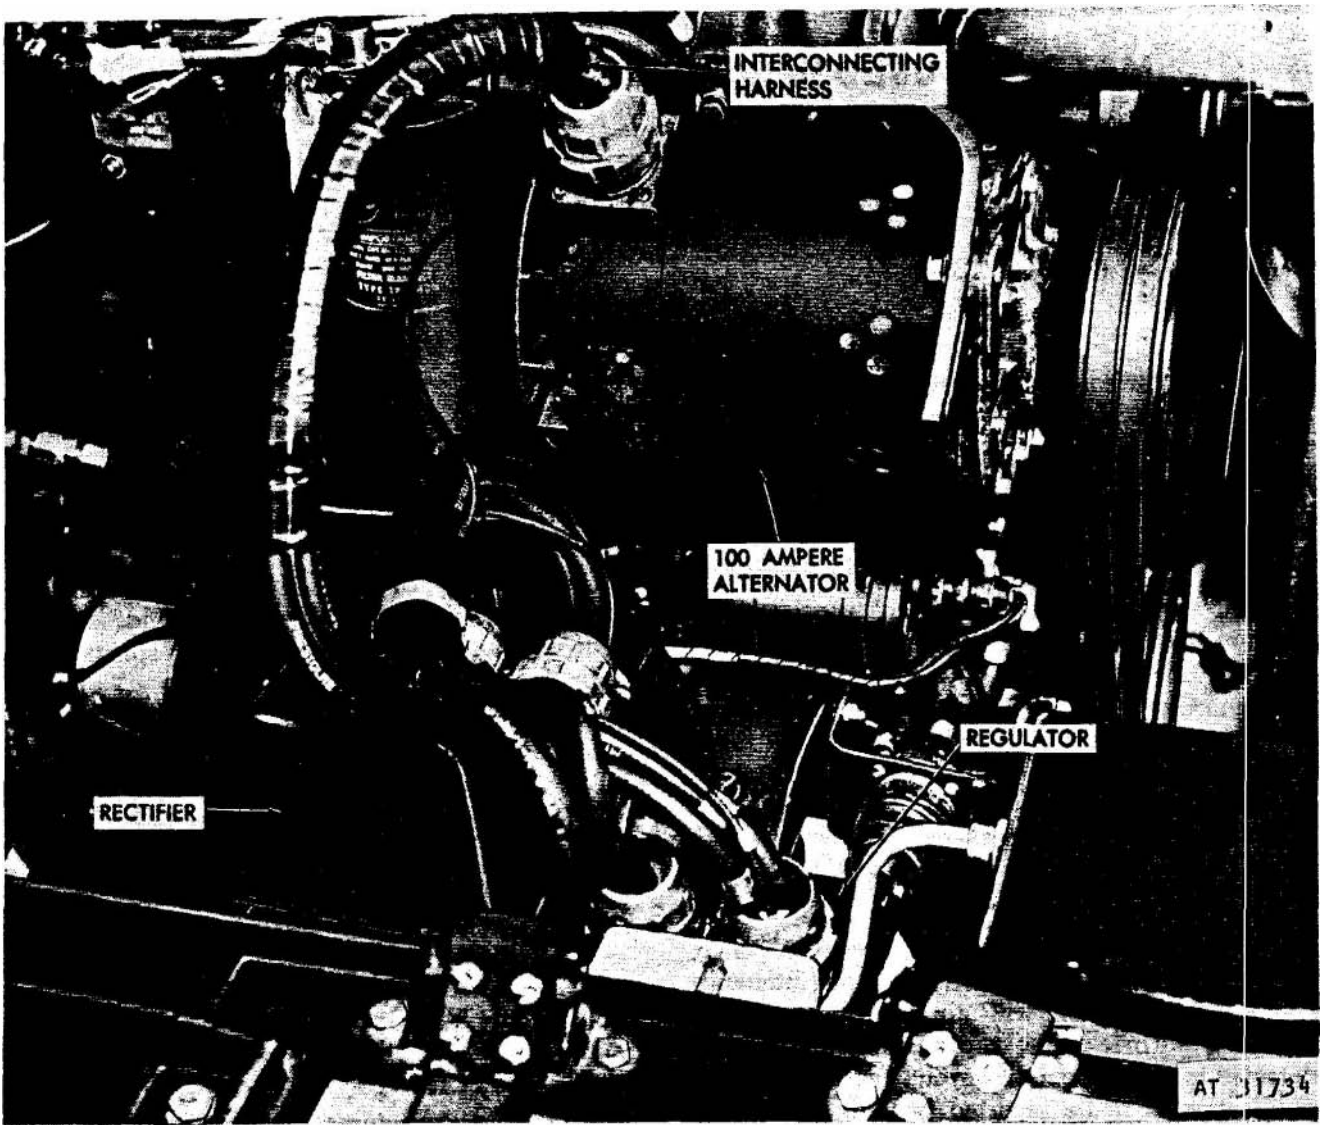

Figure 3-1. 100 Ampere alternator kit.
the vehicle engine by means of the same brackets that are used to mount the standard 60 ampere alternator. The rectifier and regulator are mounted together on the left wheelwell shelf next to the alternator. In the 60 ampere system, the rectifier and regulator are built into the alternator housing to provide the direct current output. The **installation** of the 100 ampere alternator kit is illustrated in figure 3-1.
a. *Alternator.* The alternator (fig 3-1) is a waterproof, radio noise suppressed unit, capable of delivering 28 volts AC, three phase, at 100 amperes. It is driven by two V-belts from the crankshaft pulley on the engine and is cooled by an internal fan which is located at the rear of the alternator housing.